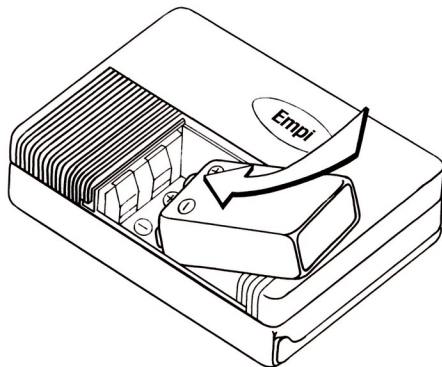

Figure 6. Battery Compartment
3. Place the new battery into the space provided (Figure 6). Be sure the terminals are in proper alignment. The "+" of the battery should be at the "+" terminal of the device and the "-" of the battery should be at the "-" terminal. Do not force the battery. If force is required, you may be putting the battery in backwards. Check the "+" and "-" markers.